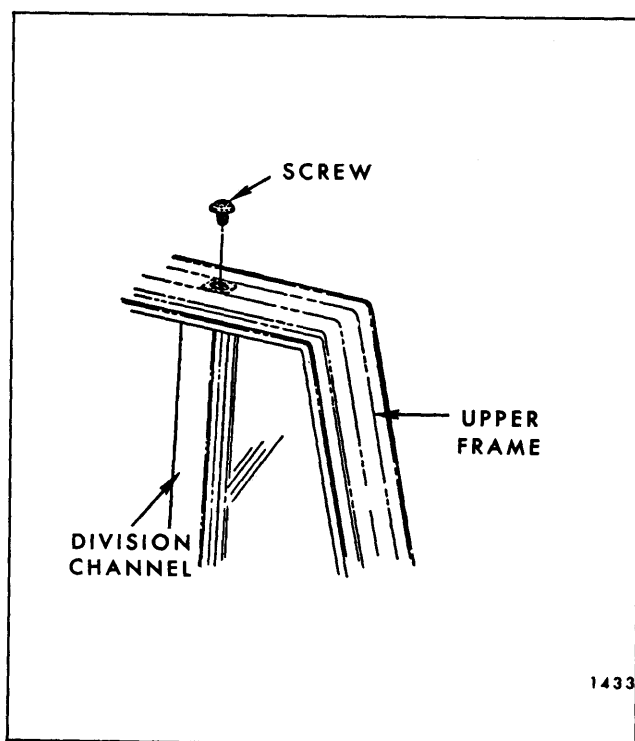

Fig. 6-100—Rear Door Ventilator Attachment - "X" Styles
4. Carefully lower door window and remove division channel to door upper frame attaching screw (See Fig. 6-100).